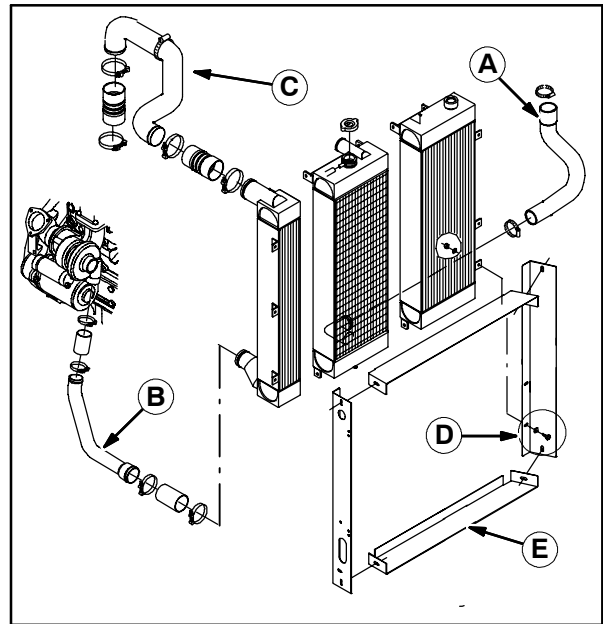
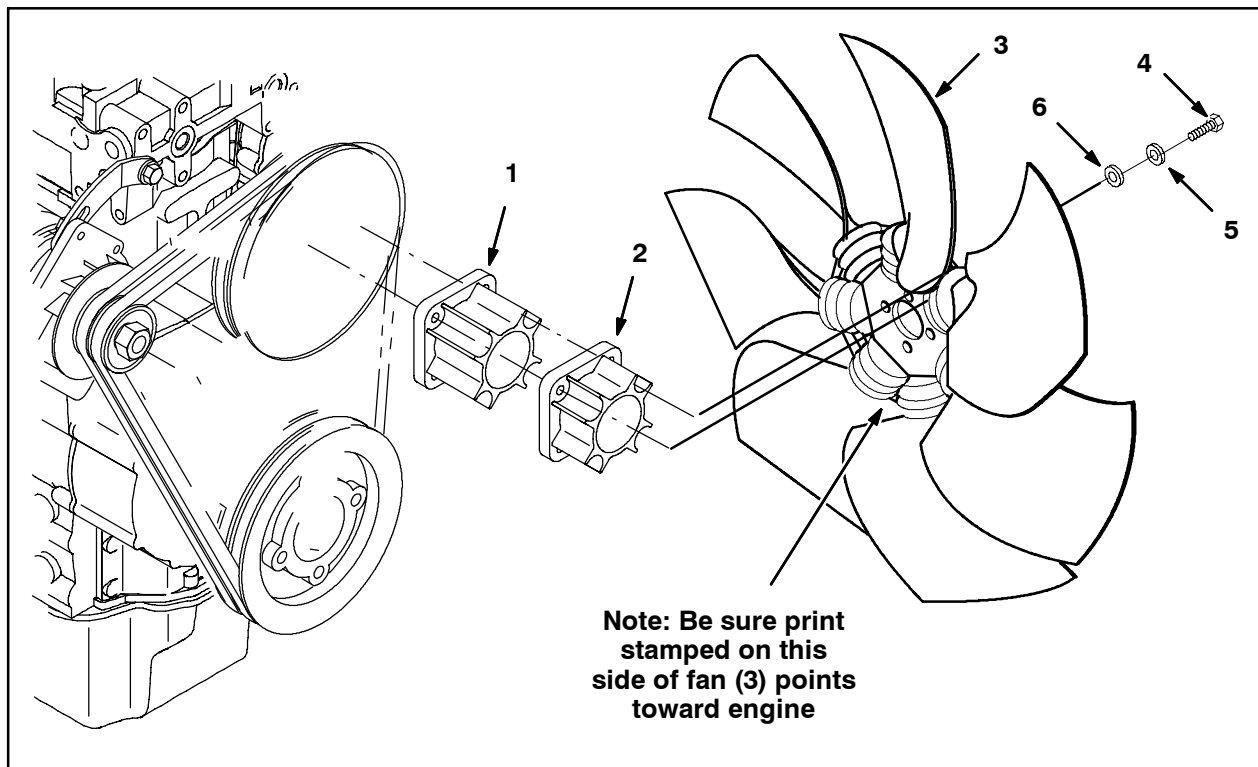

FIG. 5
FIG. 6
2. Remove the lower radiator hose (A) at the water pump. Refer to Fig. 5.
3. Remove the lower turbo air cooler hose (B). Refer to Fig. 5.
4. Remove the upper turbo air cooler hose (C). Refer to Fig. 5.
5. Remove the bolts (D) holding the lower radiator shroud (E) onto the radiator.
8. Apply blue Loctite (242 or 243) to the four hex screws (4).
9. Use four hex screws (4), four belleville washers (6), and four flat washers (5) to install the fan (3) and spacers (1) and (2) onto the engine. Be sure the print on the fan is pointed towards the engine. Tighten the bolts to between 13.6–17.7 ft. lbs (18.5–24 NM). Refer to Fig. 6.
11. Reinstall the lower turbo air cooler hose (B). Refer to Fig. 5.
12. Reinstall the upper turbo air cooler hose (C). Refer to Fig. 5.
13. If lower radiator hose (A) was removed, reinstall the lower radiator hose to the water pump. Refer to Fig. 5.